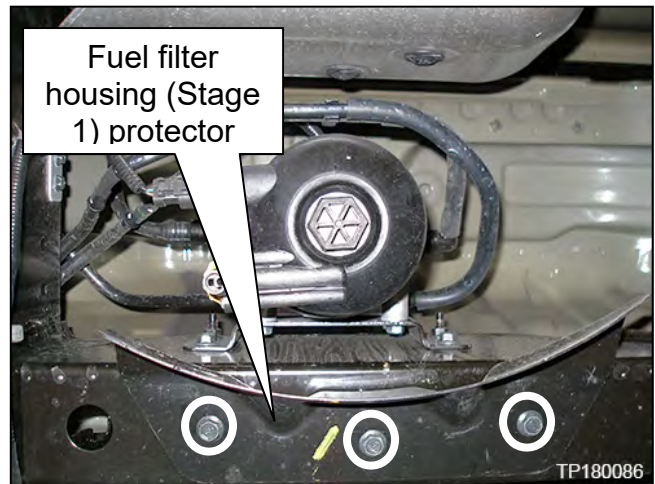

Figure 4
- Fuel filter housing (Stage 1) protector is held on with 3 bolts, circled in Figure 4.